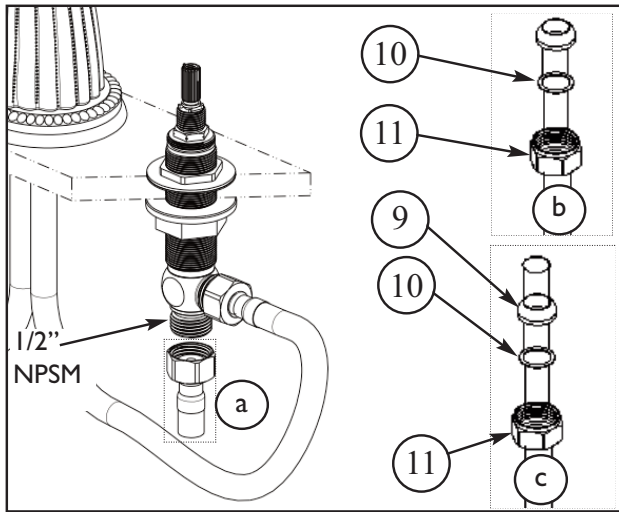
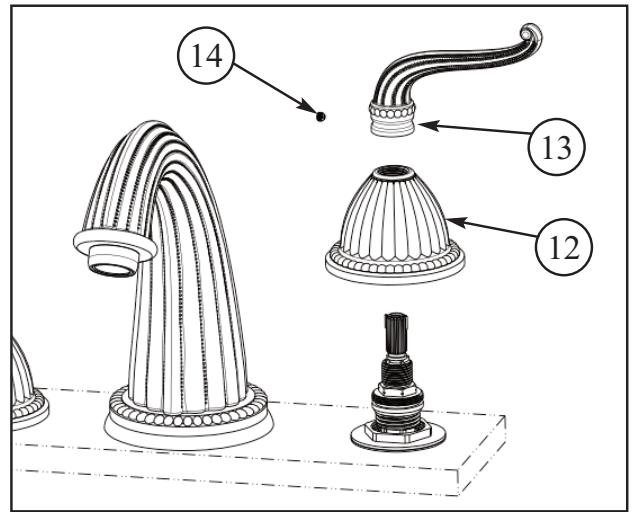

Figure 3
Figure 4
4. Connect hot/cold water supply to appropriate 1/2" NPSM valve BODY (8), utilizing one of the three following types of risers. Supply risers not included. See Figure 3.
- a. 1/2" IPS flexible riser: discard rubber nosecone WASHER (9), friction WASHER (10) and coupling NUT (11).
- b. 3/8" or 1/2" OD bullnose riser: utilize friction WASHER (10) and coupling NUT (11).
- c. 1/2" copper riser: utilize rubber nosecone WASHER (9 friction WASHER (10) and coupling NUT (11).
5. Place ESCUTCHEON (12) and HANDLE (13) to cartridge. Secure HANDLE (13) into place with SET SCREW (14). Any adjustments for rotational alignment must be made to the valve BODY (8) - not to the cartridge. (Note: Allow minimum spacing between HANDLE (13) and ESCUTCHEON (12) to prevent damage to the surface finish.) See Figure 4.